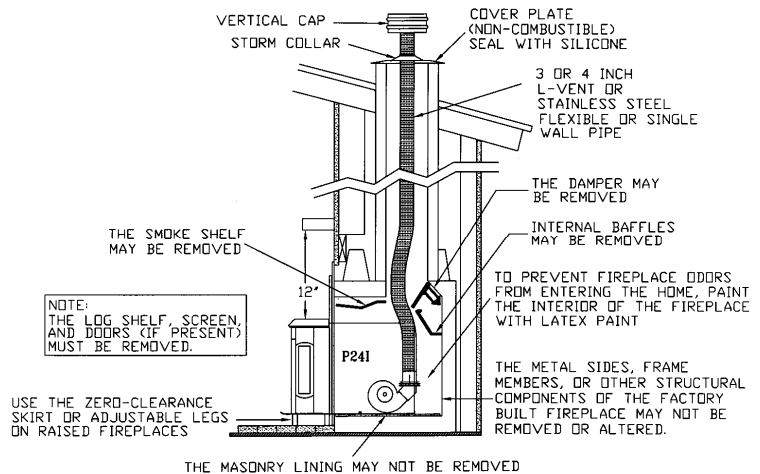

FIGURE 18
E. INSTALLATION IN TO A FACTORY BUILT (METAL) FIREPLACE (Refer to figure 18)